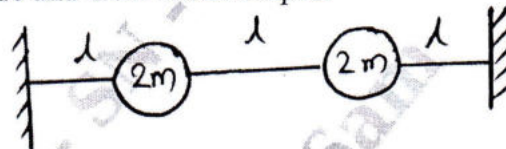

Fig.Q.7(a)
- 7 a. Fig.Q.7(a) shows a system subjected to vibration. Find an expression for the natural frequency. Locate the mode and draw mode shapes. (12 Marks)